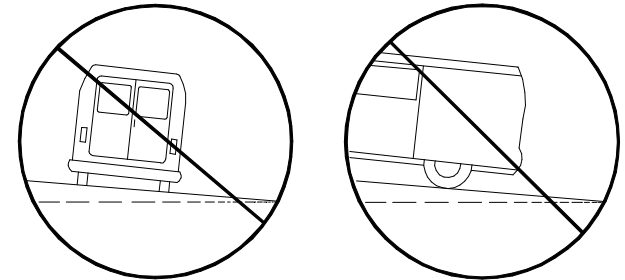

FIGURE 2-1: UNSAFE VEHICLE SLOPING
- Refer to **Figure 2-1**. A dangerous situation may exist when using the Power Seat Base if the vehicle is parked on either a side or front-to-rear slope. Always operate the Power Seat Base with the vehicle parked on level ground.